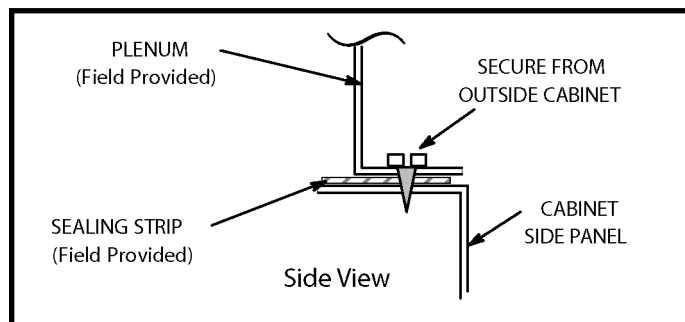

Figure 17
- Bottom edge of plenum should be flanged with a hemmed edge (See Figure 17 or 18).